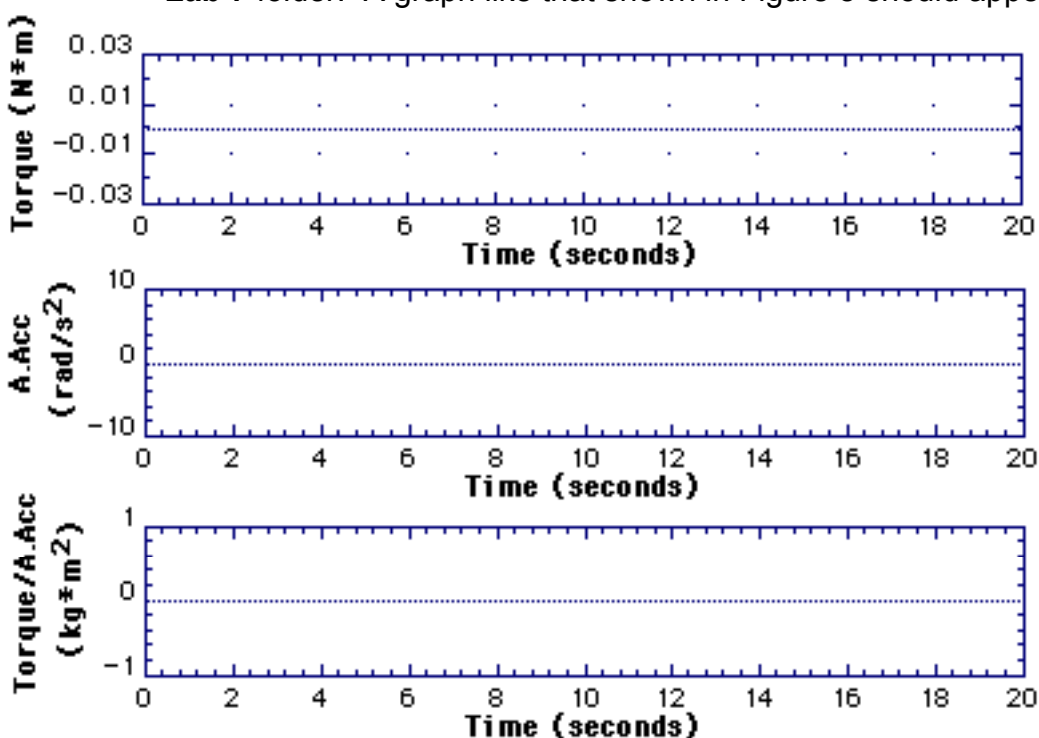

Figure 8. Twister graph format for Activity 2
- Pull down the **File** menu and select **Open**. **Open** the file **Twister** in the **Lab 7** folder. A graph like that shown in Figure 8 should appear.